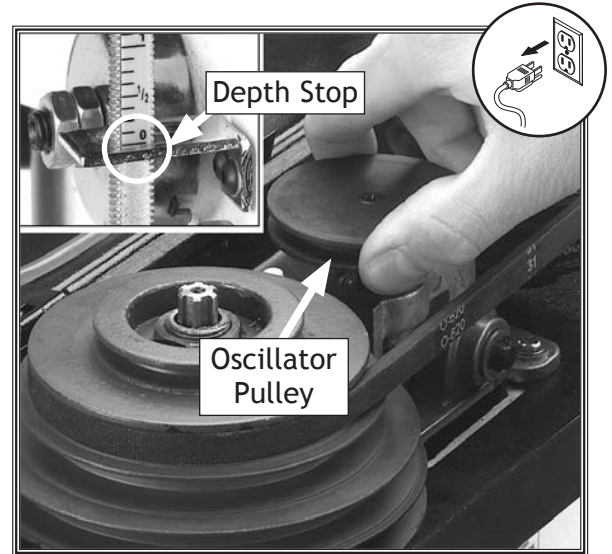

Figure 58. Fully seating quill shaft.
4. Rotate the oscillator pulley so the depth stop reads "0" and the quill shaft is completely seated, as shown in **Figure 58**.